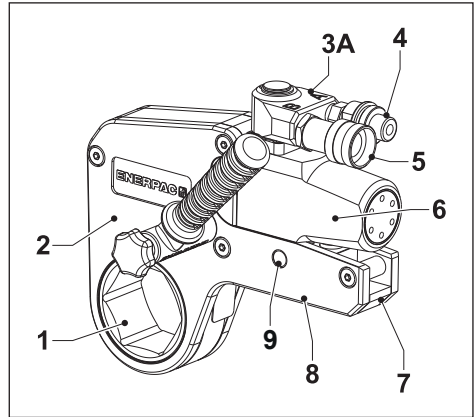

Fig. 1
- Never operate the wrench if it is known or suspected that the drive unit spacer retaining pin is worn, bent, missing or damaged. Drive unit could disengage from the cassette and become a dangerous projectile. See Item 9 page 10, Fig. 1 or 2.
3.1 Overview and features (Fig. 1 or 2)